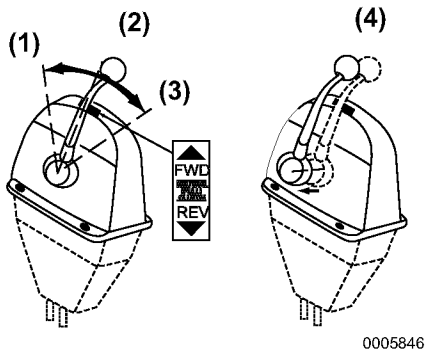

Figure 4
2. When moving the handle between FORWARD (**Figure 4, (1)**) and REVERSE (**Figure 4, (3)**), bring the clutch to NEUTRAL (**Figure 4, (2)**) and pause before slowly shifting to the desired position. Do not shift abruptly from FORWARD to REVERSE or vice versa.